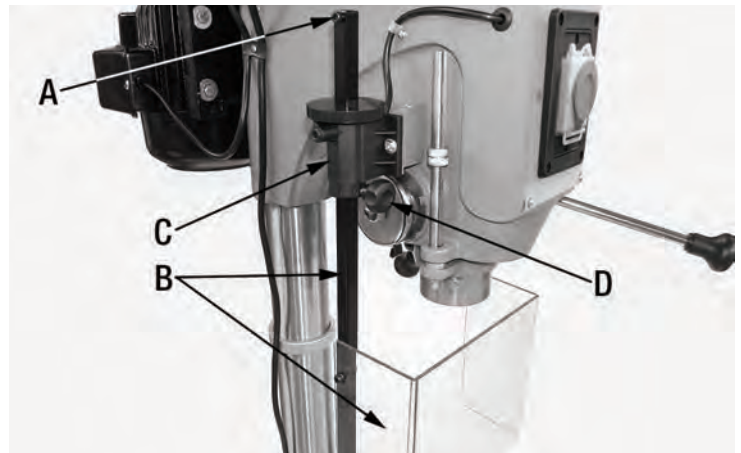

FIGURE 15
- 2) Remove cap screw (A) Fig.15 from the bar and safety guard assembly (B).
- 3) Slide the bar and safety guard assembly (B) up into the limit switch bracket (C). Reinstall cap screw (A).
- 4) Adjust the height of the bar and safety guard assembly and secure its position by tightening lock knob (D).